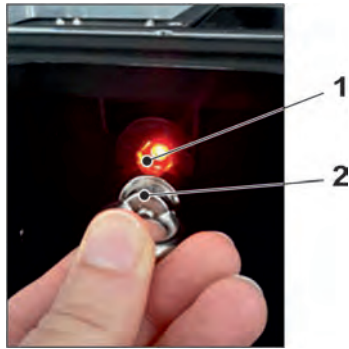

Fig. 31-20 Waking up the NivuFlow Mobile
2. "Wake up" NivuFlow Mobile: to do this, hold the supplied magnet (Fig. 31-20 Pos. 2) in front of the Reed contact (Fig. 31-20 Pos. 1; at the front of the NFM) until the LED lights up.